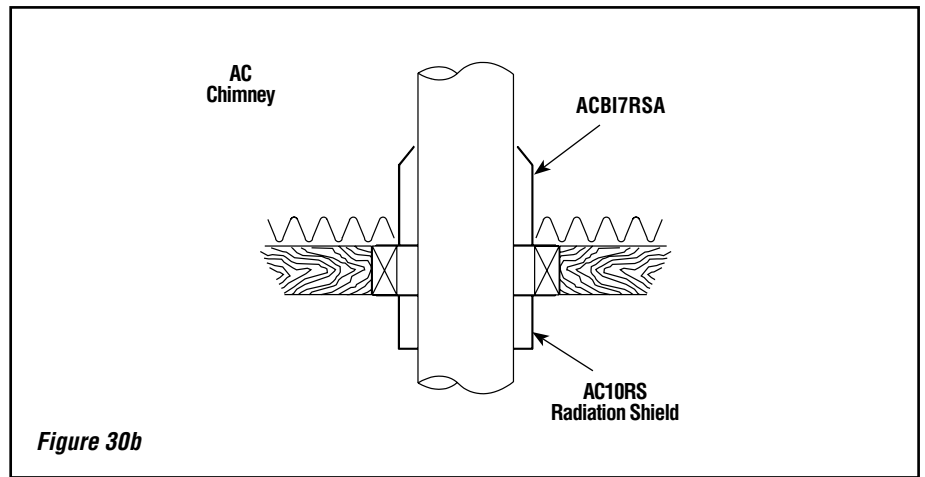

Figure 30b
5. From below, install a radiation shield (see **Figure 30b**).